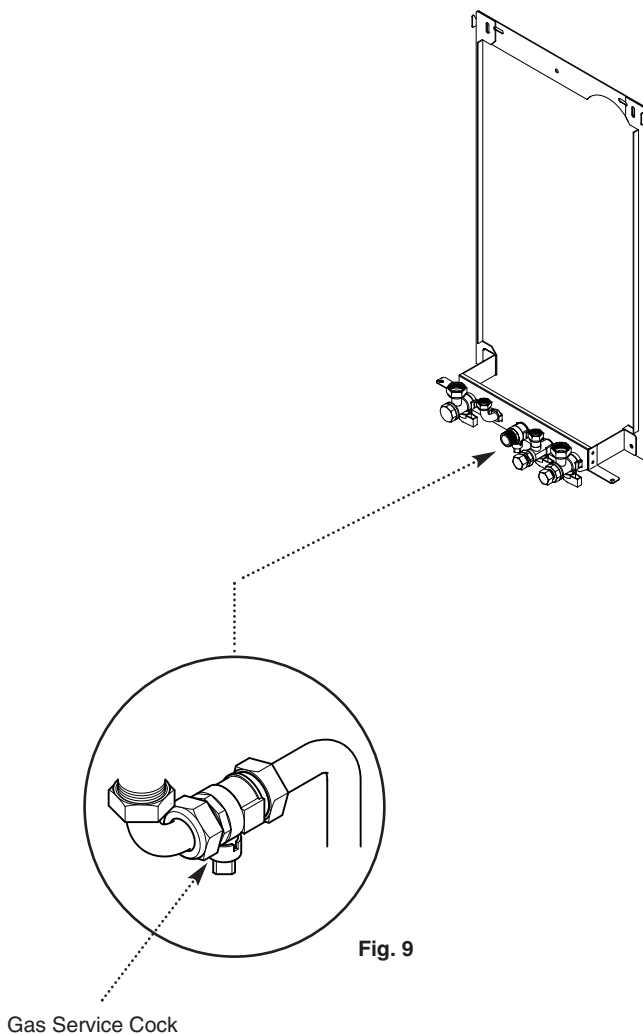

Fig. 9
2. The connection to the appliance is a 22mm copper tail located at the rear of the gas service cock (Fig. 9).